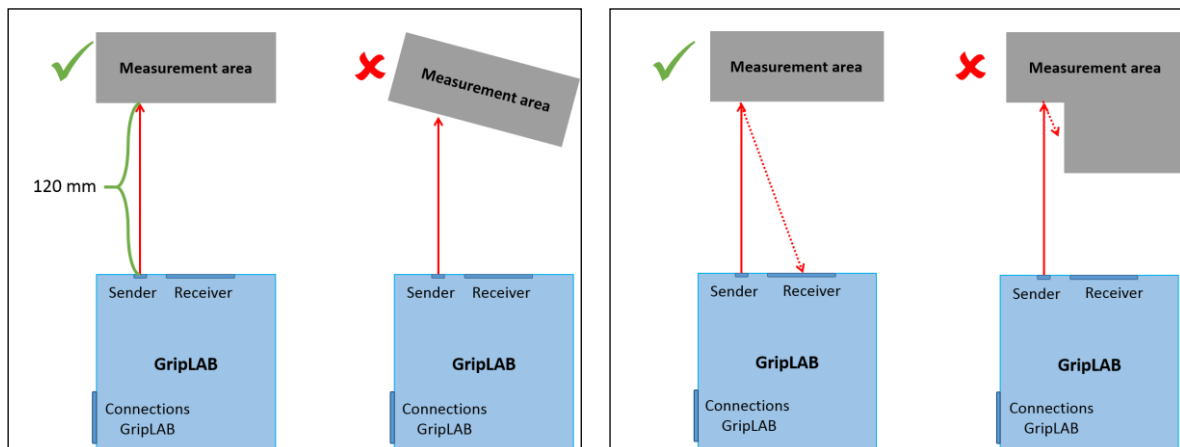

Figure 6: Regulations for measuring points
- The laser beam has to be perpendicular on the surface to be measured in the measuring point (see Figure 6).
- The laser beam must not be obstructed by any edge (see Figure 6).